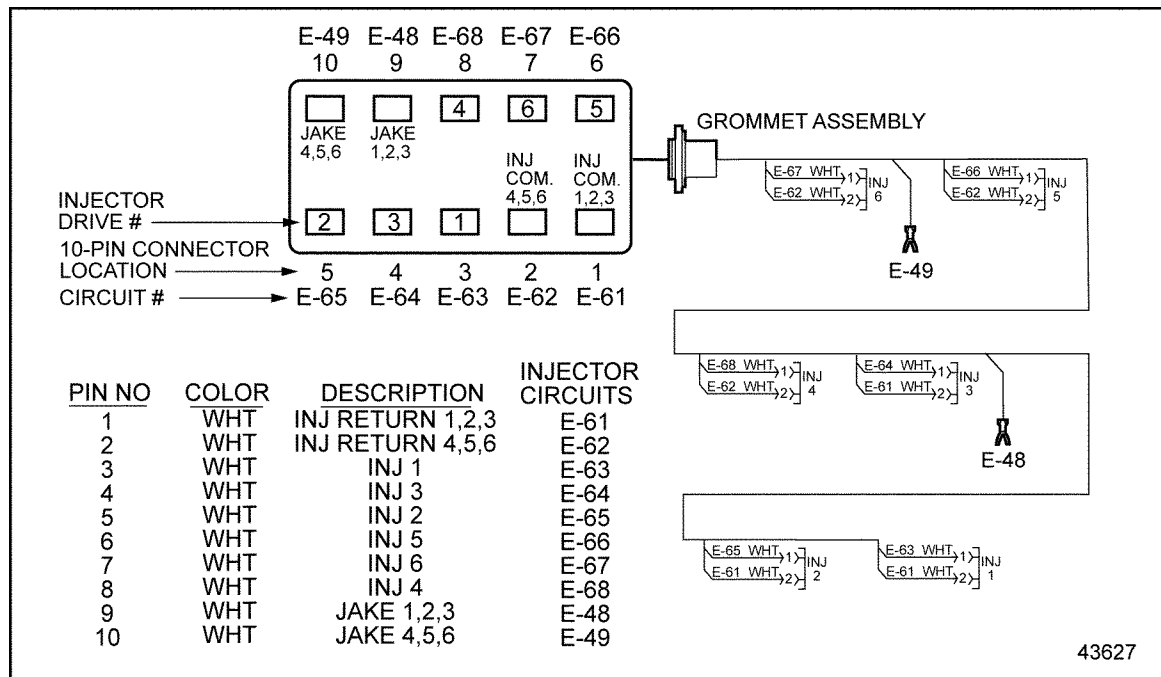

Figure 57-2 Injector Harness with Jake Brake
1. Disconnect the injector harness 10 pin connector and locate the terminals associated with the codes. See Figure 57-2.